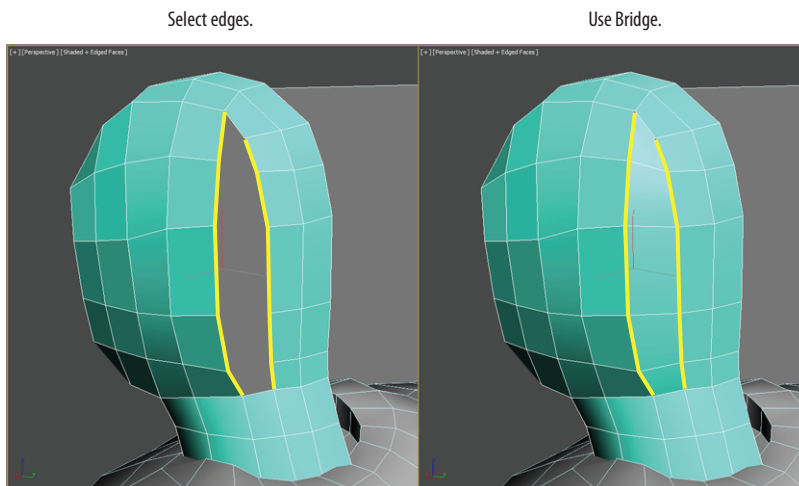

FIGURE 9.17 Bridge the vertical edges to fill the last hole.
2. Select the edges on either side of the gap and use Bridge to close the gap, as Figure 9.17 shows. This time you have the exact number needed to create a solid head shape.